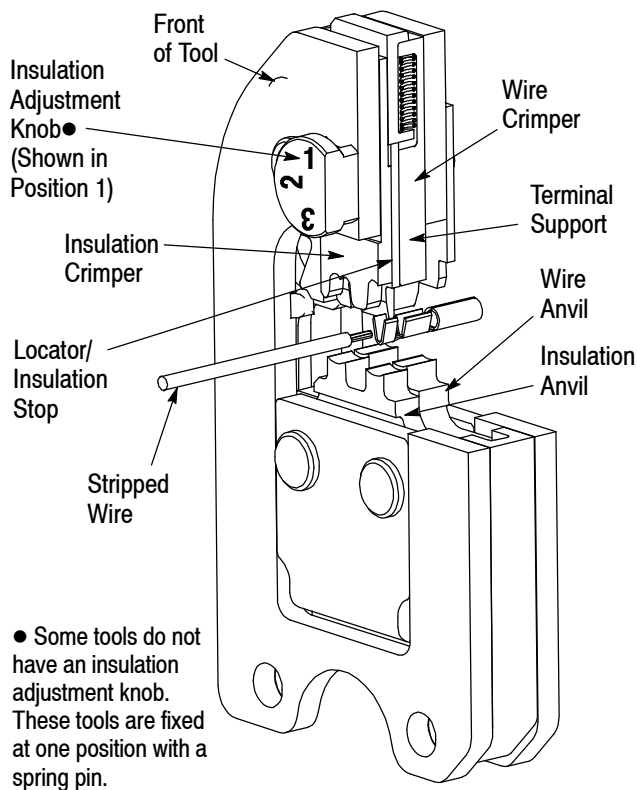

Figure 1
The tool features a fixed die (crimper), a movable die (anvil), a locator/insulation stop, and a ratchet. Many tools feature an insulation adjustment knob which is used to regulate the crimp height of the contact insulation barrel during the crimping operation. The locator/insulation stop positions the contact, and limits the insertion distance of the stripped wire into the contact. In use, the locator/insulation stop rests in the locator slot of the contact (See Figures 1 and 2). The ratchet assures full crimping of the contact. Once engaged, the ratchet will not release until the dies have been fully closed.
4. Position the contact between the crimpers so that the locator/insulation stop enters the slot in the contact. The wire barrel should butt against the locator/insulation stop. Refer to Figures 1 and 2.
On many tools, the insulation barrel crimp height is regulated by the insulation adjustment knob (Figure 1). The insulation crimp should hold the insulation firmly without cutting into the insulation.
5. Check the clearance between the bottoming surfaces of the wire crimper and the wire anvil. See Figure 1. If the clearance is 0.025 mm [.001 in.] or less (on at least two of the bottoming surfaces), the ratchet is satisfactory. If clearance exceeds 0.025 mm [.001 in.], the ratchet is out of adjustment and must be repaired. See Section 5.